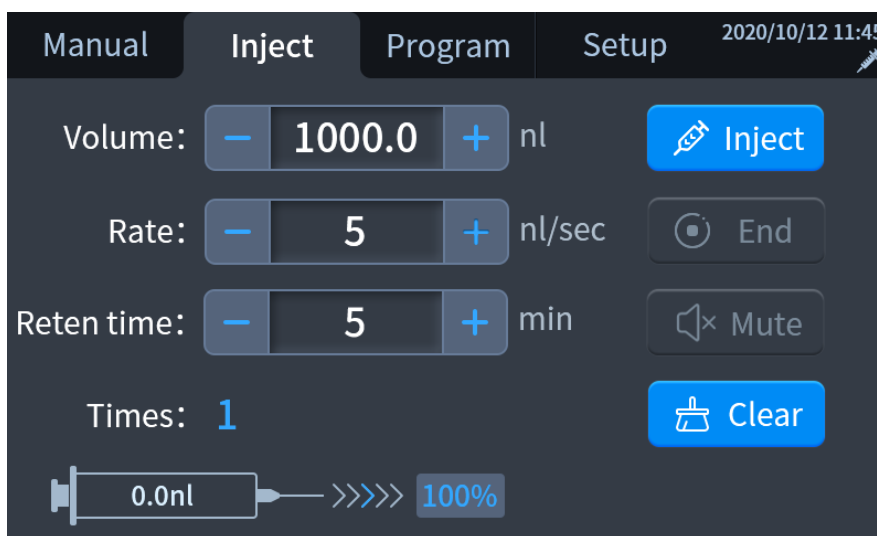

Figure 5-10
- 11) After the injection is completed, the user will hear a beep and the progress percentage is 100%, as shown in Figure 5-10.